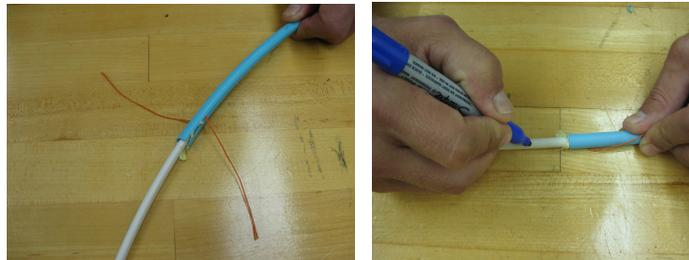

Figure 5-Mark the central tube at the appropriate length to be removed.
4.6 Where applicable cut away the Kevlar and strength members. Mark the central tube at the location of tube to be removed at the required length (Figure 5).